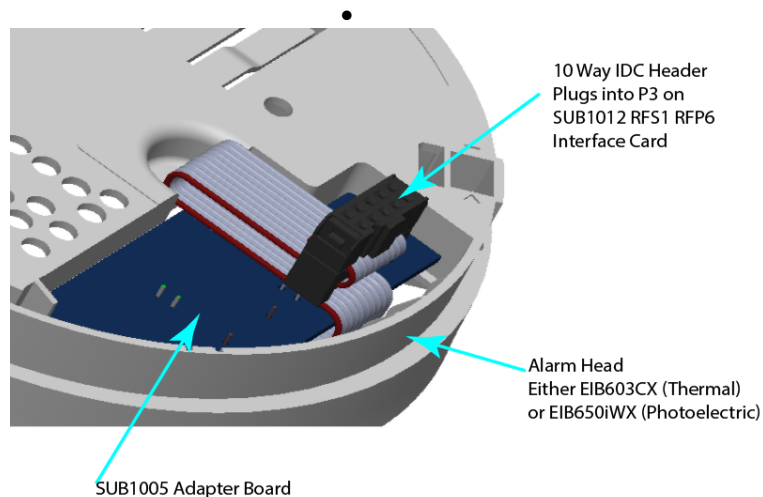
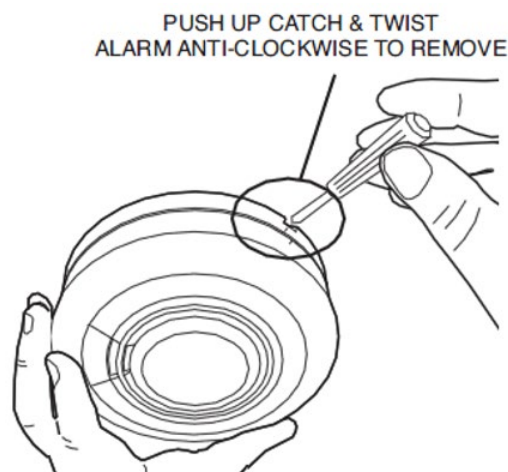

Figure 10 Ribbon cable from SUB1005
Figure 11 Removing Alarm Heads from BAX16
- 3) Connect the appropriate Smoke/ Heat Alarm head to BAX16 by plugging the adapter board SUB1005 into the socket in the Alarm as shown in Figure 10. Refer to Figure 11 for head removal.